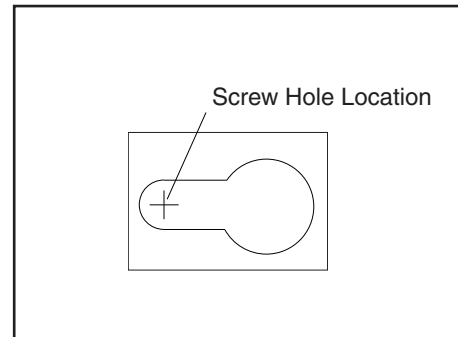
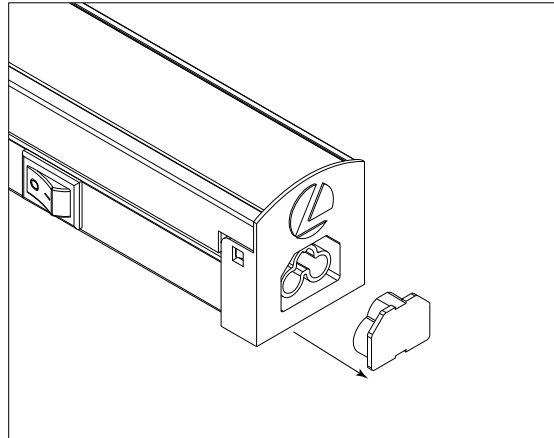

Figure 2
Figure 5
5. Position the Housing Assembly (1) against the mounting surface and with a pencil, mark the screw hole locations to be located at the narrow section of the keyholes. **See Fig. 2.**
6. Using a drill with a 1/16" drill bit, make two small pilot holes at the marked screw hole locations. If drill bit does not encounter a stud or wood surface, use toggle bolts or suitable fastener depending on structural conditions. If drill bit does encounter wood surface, use provided #10 wood screw (10).
7. Partially install the Mounting Screws. Position the Housing Assembly (1) against the mounting surface with the screw heads through the keyhole mounting holes. Slide the fixture until the screw heads are through the narrow section of the key holes. Finish tightening the screws to secure the fixture against the mounting surface.
5. Coloque la caja de la luminaria (1) contra la superficie de montaje y con un lápiz, marque las localizaciones de los agujeros para los tornillos que serán ubicados en la sección angosta de los "keyholes". **Vea Fig. 2**
6. Usando un taladro con una broca de 1/16", haga dos pequeños agujeros pilotos en las ubicaciones marcadas para agujeros de tornillos. Si la broca del taladro no se encuentra con un machón o madera, use perno de expansión u otro sujetador conveniente dependiendo de condiciones estructurales. Si la broca se encuentra con una superficie de madera, use tornillo de madera #10. (10)
5. Placer le boîtier de l'appareil (1) sur la surface de montage et à l'aide d'un crayon tracer l'emplacement des trous de vis sur la partie étroite des encoches en trou de serrure. **Voir la Fig. 2**
6. À l'aide d'une perceuse et d'un foret de 1/16 po, faire deux petits trous de guidage aux endroits indiqués pour les trous des vis. Si la perceuse ne rencontre pas un montant ou une surface en bois, utiliser des boulons à ailettes ou d'autres fixations, selon les conditions de la structure. Si la perceuse rencontre une surface en bois, utiliser une vis à bois calibre 10. (10)
10. Ramassez les câbles dans un groupe serré pour les mettre à l'écart et reconnectez les connecteurs de câbles (4). Réinstallez l'assemblage du couvercle DEL (2).
12. Once the first fixture is mounted, you can install the next fixture in the chain. On the end(s) of fixture to be connected- remove plug cover- **See Fig 5.**
3. Position the Housing Assembly (1) against the mounting surface and with a pencil, mark the screw hole locations to be located at the narrow section of the keyholes. **See Fig. 2.**
4. Using a drill with a 1/16" drill bit, make two small pilot holes at the marked screw hole locations. If drill bit does not encounter a stud or wood surface, use toggle bolts or suitable fastener depending on structural conditions. If drill bit does encounter wood surface, use provided #10 wood screw (10).
5. Partially install the Mounting Screws. Position the Housing Assembly (1) against the mounting surface with the screw heads through the keyhole mounting holes. Slide the fixture until the screw heads are through the narrow section of the key holes. Finish tightening the screws to secure the fixture against the mounting surface.
6. Bundle wires in tight grouping to be out of the way and reconnect Wire Connectors (4). Reinstall LED Cover Assembly (2).
8. Once the first fixture is mounted, you can install the next fixture in the chain. On the end(s) of fixture to be connected- remove plug cover- **See Fig 5.**
12. Una vez que el primer luminaria está montado, usted puede instalar el siguiente en el circuito. En los extremos del montaje que se conectará: quite la cubierta del enchufe, **Vea fig 5.**
Vea Fig. 2.
6. Ate los cables en grupos ajustados para que estén fuera del camino y vuelva a enchufar los conectores de cable (4). Vuelva a instalar el montaje de cubierta del led (2).
8. Una vez que el primer luminaria está montado, usted puede instalar el siguiente en el circuito. En los extremos del montaje que se conectará: quite la cubierta del enchufe, **Vea Fig 5.**
12. Lorsque le premier appareil d'éclairage est monté, vous pouvez installer l'appareil suivant de la chaîne. Aux extrémités du luminaire à connecter - retirez le couvercle de la prise - **Voir Fig 5.**
4. À l'aide d'une perceuse et d'un foret de 1/16 po, faire deux petits trous de guidage aux endroits indiqués pour les trous des vis. Si la perceuse ne rencontre pas un montant ou une surface en bois, utiliser des boulons à ailettes ou d'autres fixations, selon les conditions de la structure. Si la perceuse rencontre une surface en bois, utiliser une vis à bois calibre 10. (10)
6. Ramassez les câbles dans un groupe serré pour les mettre à l'écart et reconnectez les connecteurs de câbles (4). Réinstallez l'assemblage du couvercle DEL (2).
8. Lorsque le premier appareil d'éclairage est monté, vous pouvez installer l'appareil suivant de la chaîne. Aux extrémités du luminaire à connecter - retirez le couvercle de la prise - **Voir Fig 5.**